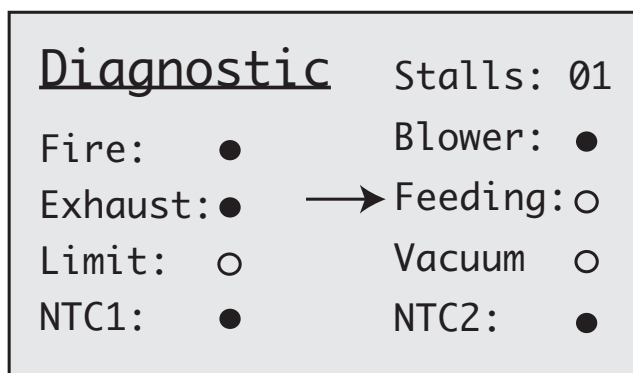

Figure 29
2. Using the **SCROLL DOWN** key, move to option 6, "DIAGNOSTICS". Press **ENTER**. This will take you to the "DIAGNOSTICS" screen. **SEE FIGURE 29.**